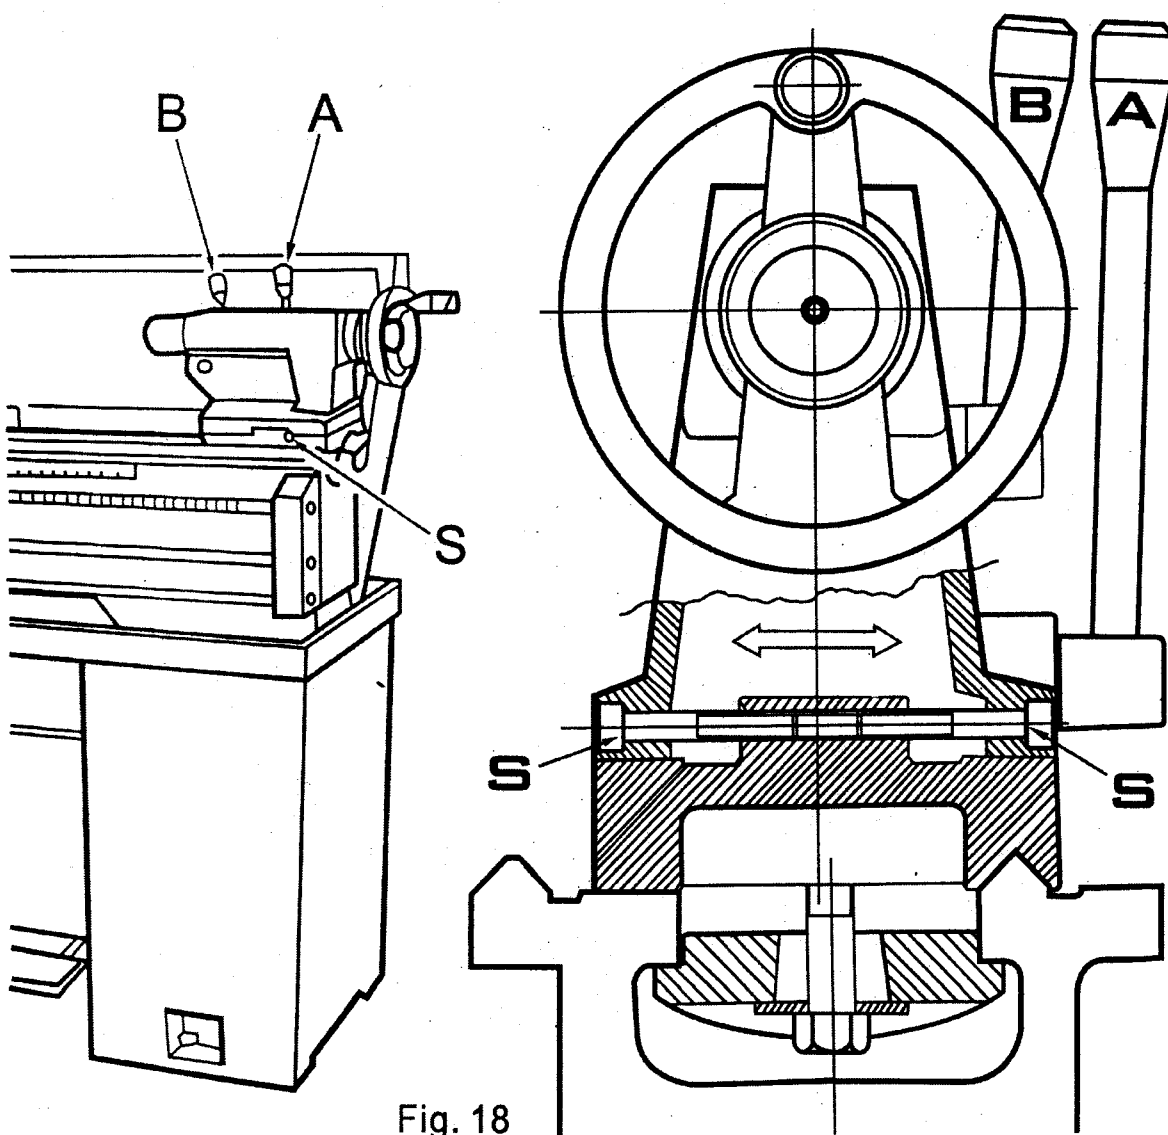

Fig. 18
The tailstock can be set-over for production of shallow tapers or for realignment. Release the clamping lever and adjust screws (S) at each side of the base to move tailstock laterally across the base. An indication of the set-over is given by the datum mark (C) at the tailstock end face, as shown in Fig 18. Apply clamp lever after adjustment of set-over.
The tailstock can be set-over for production of shallow tapers or for realignment. Release the clamping lever and adjust screws (S) at each side of the base to move tailstock laterally across the base. An indication of the setover is given by the datum mark (C) at the tailstock end face, as shown in Fig 18. Apply clamp lever after adjustment of set-over.